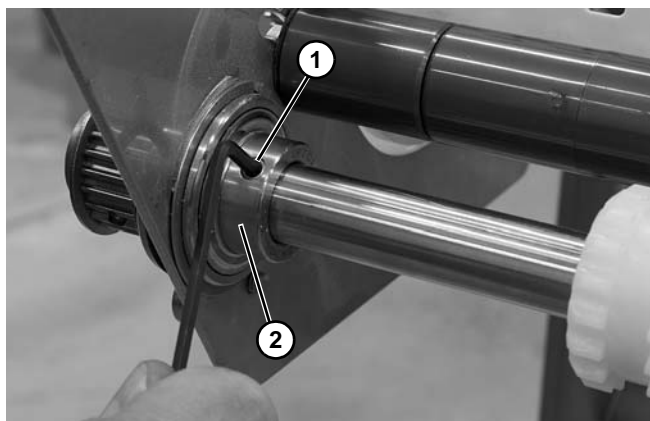

Figure 69
13. Loosen two set screws (**Figure 69, item 1**) on bearing (**Figure 69, item 2**) on both sides of the power transfer.